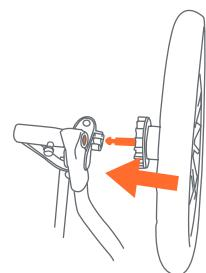

Fig. 5a
• Press the rear wheel posts into the rear frame hub until it clicks into place (Fig. 5a).